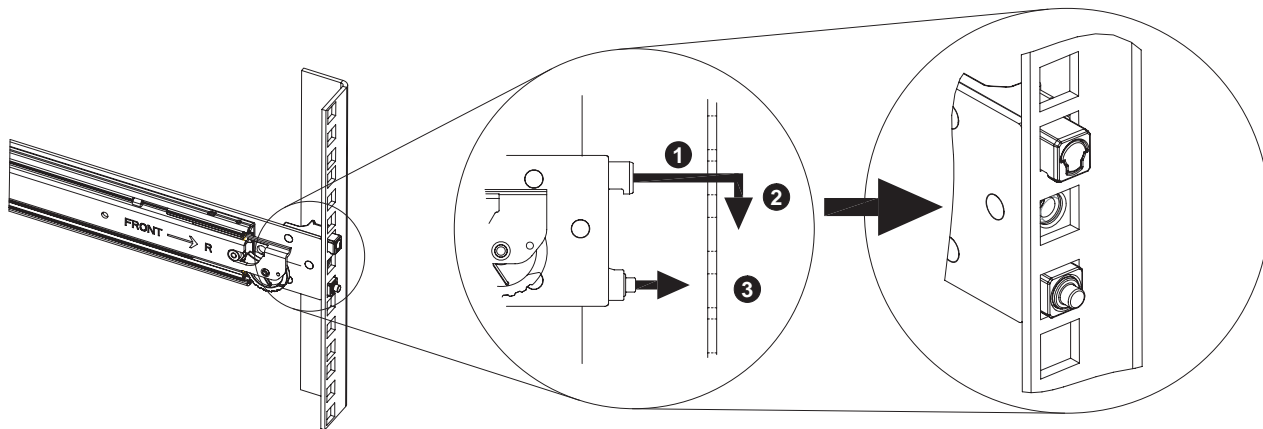

Figure 2-2 Attaching ISS3112-RP2 Rail Slides to the Rack
1. Attach the slide rails to the rack as shown in the example in Figure 2-2.